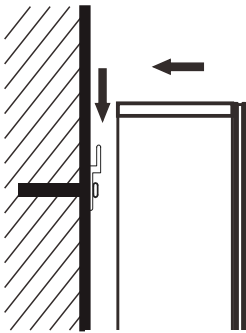
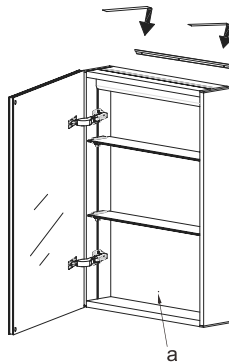

Fig. 3
Fig. 4
- 2.1 Attach the mirror cabinet to the bar as shown in Fig. 3, open the cabinet door, and mark on the wall with a pencil (Fig. 4) through the backplane hole (a).
- 2.3 Repeat the operation as shown in Fig. 3 and mount the mirror cabinet to the bar, make sure that the circuit on the wall is not energized and connect the three-core wire reserved on the wall to the three-core wire terminal block on the product (Fig. 6), and then tighten the screws on the backplane (Fig.6-b).